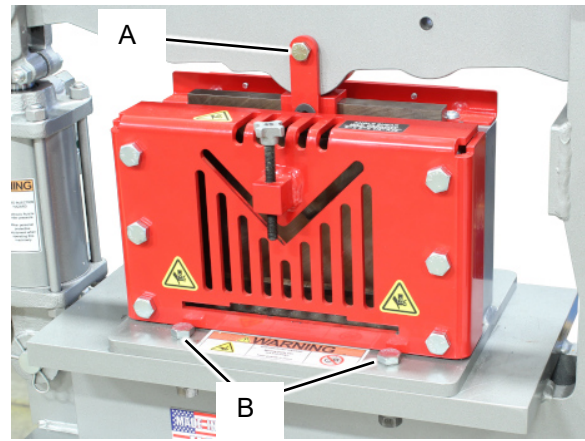

Figure 8
Referring to Figures 8 - 11:
3. Remove the blade to rock arm pivot bolt (Fig. 8, A).
4. Remove and retain the four bolts bolt (Fig. 8, B) mounting the shear station to the frame table.